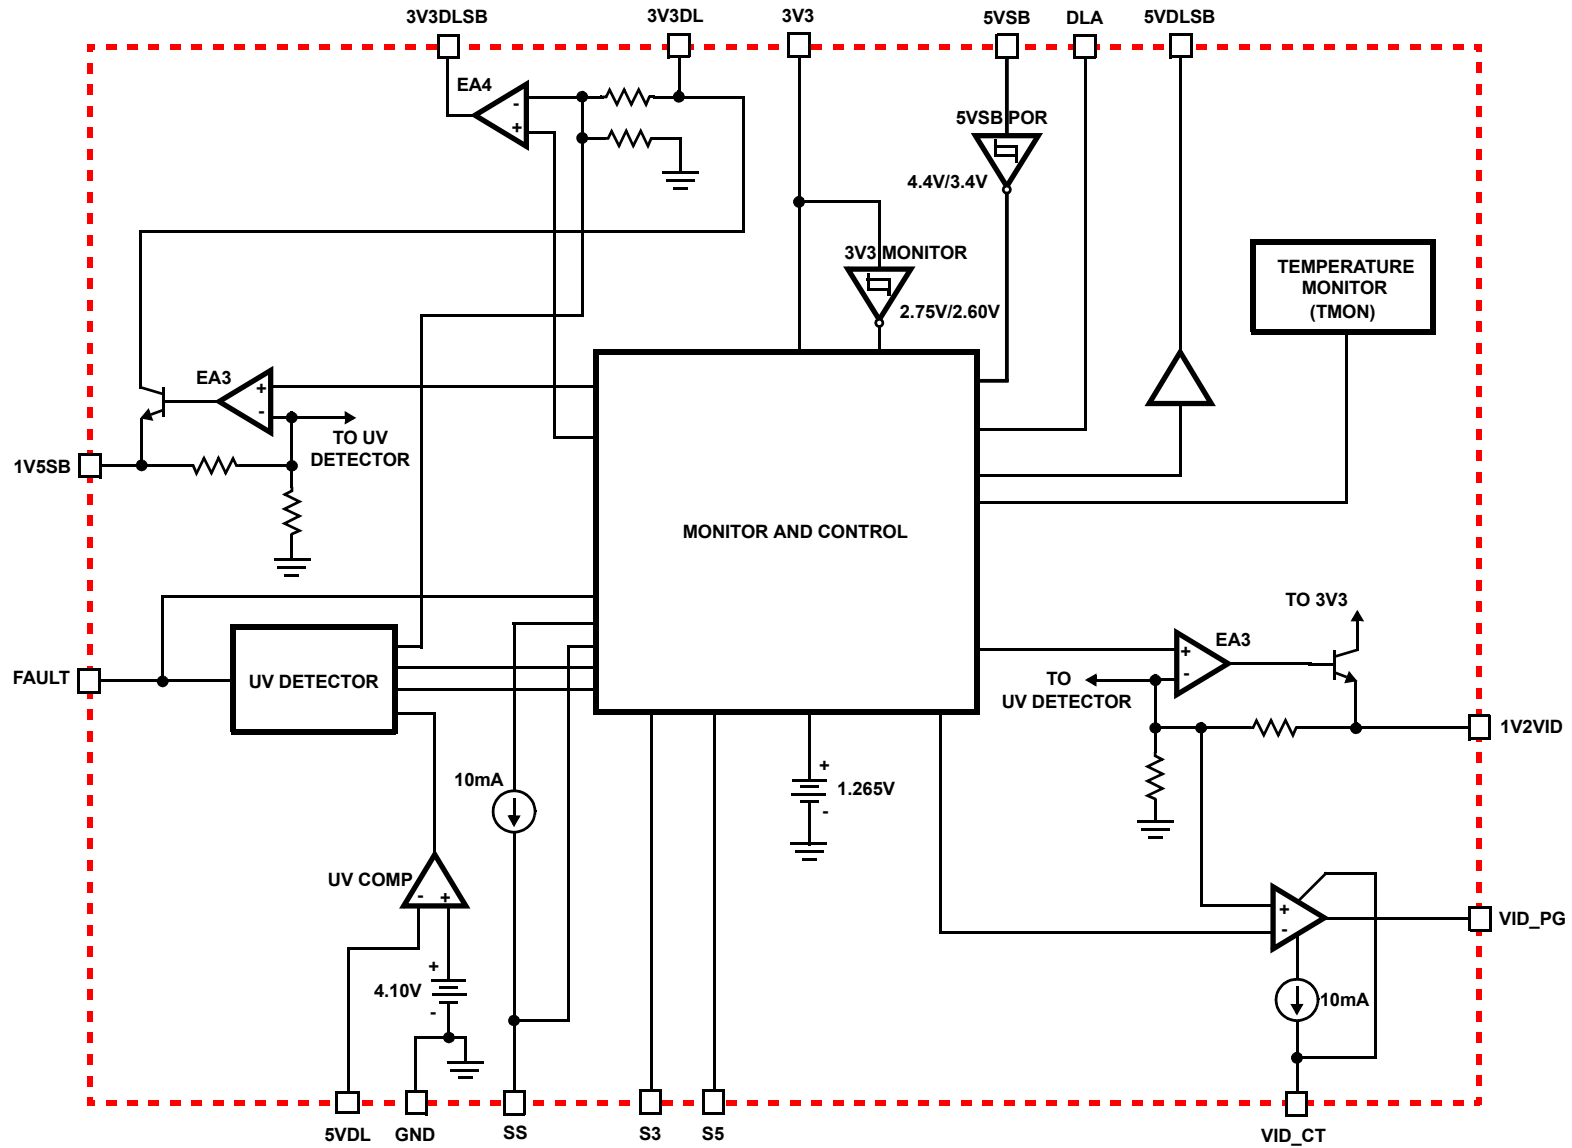

FIGURE 1.
## Electrical Specifications Recommended Operating Conditions, Unless Otherwise Noted Refer to Figures 1, 2 and 3
**Electrical Specifications** Recommended Operating Conditions, Unless Otherwise Noted Refer to Figures 1, 2 and 3 **(Continued)**